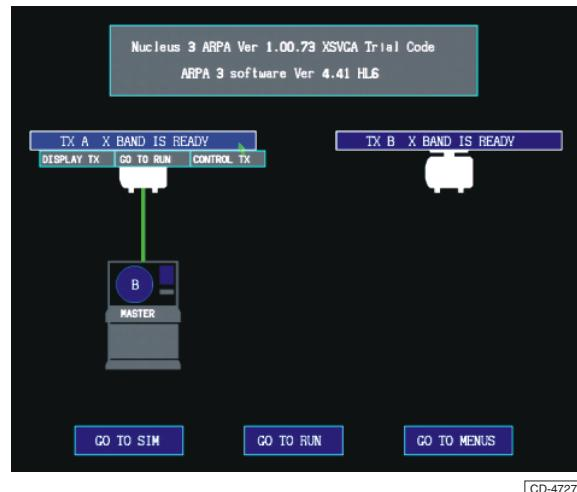

Figure 3 - Standby Screen (with Interswitch & ARPA)
- 29 The display starts up in the standby condition. No radar is displayed. The ARPA screens contain a set of instruction boxes, as shown in Figure 3 below.